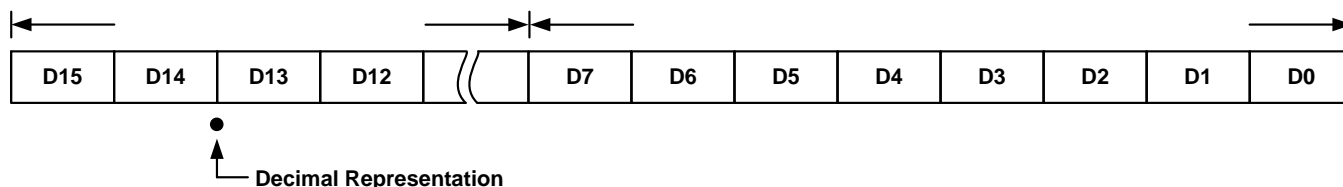

Figure 27. Binary Representation Of Gain Correction Factor
5. **LUT Data Entry:** Each GCF needs to be converted from decimal to a 16 bit binary word representing a decimal number between 0 and 4. An example illustrating this binary representation of the decimal number is shown in Figure 27. The conversion equation that scales the GCF into the 16 bit binary  $GCF_{\text{BINARY}}$  is shown in Equation 2. Once the conversion has been calculated for each temperature the values are programmed
into the appropriate registers in the LUT. The MSB of the LUT value consists of bits D15 to D8 as shown in Figure 27, the LSB are bits D7 to D0.